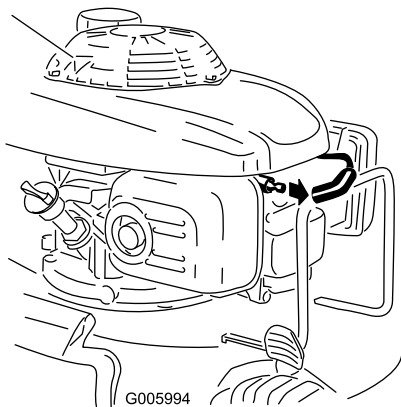

Figure 34
2. Disconnect the spark plug wire from the spark plug (Figure 34) before performing any maintenance procedure.
2. Disconnect the wire from the spark plug (Figure 34).